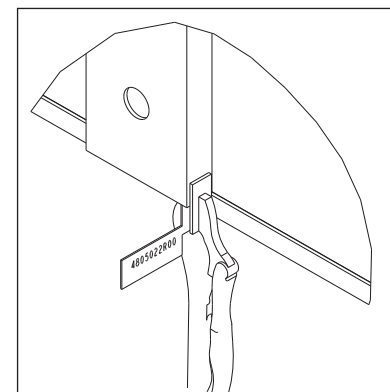
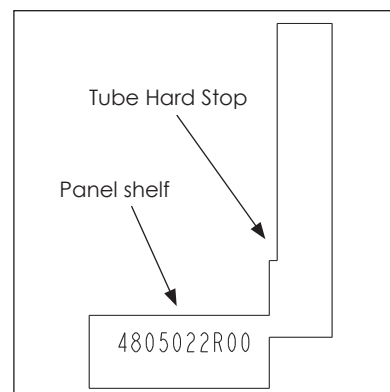

Figure 14: Slide Jigs into Bottom of Mounting Tubes
Figure 15: Set Panel Location
- a. Slide the panel positioning jigs into the bottom of the mounting tubes with the jigs on the inside edge of the tube. Refer to **Figure 14**. The panel will sit on the punched edge of the positioning jig, using the bottom of the tube to set the location. Refer to **Figure 15**.